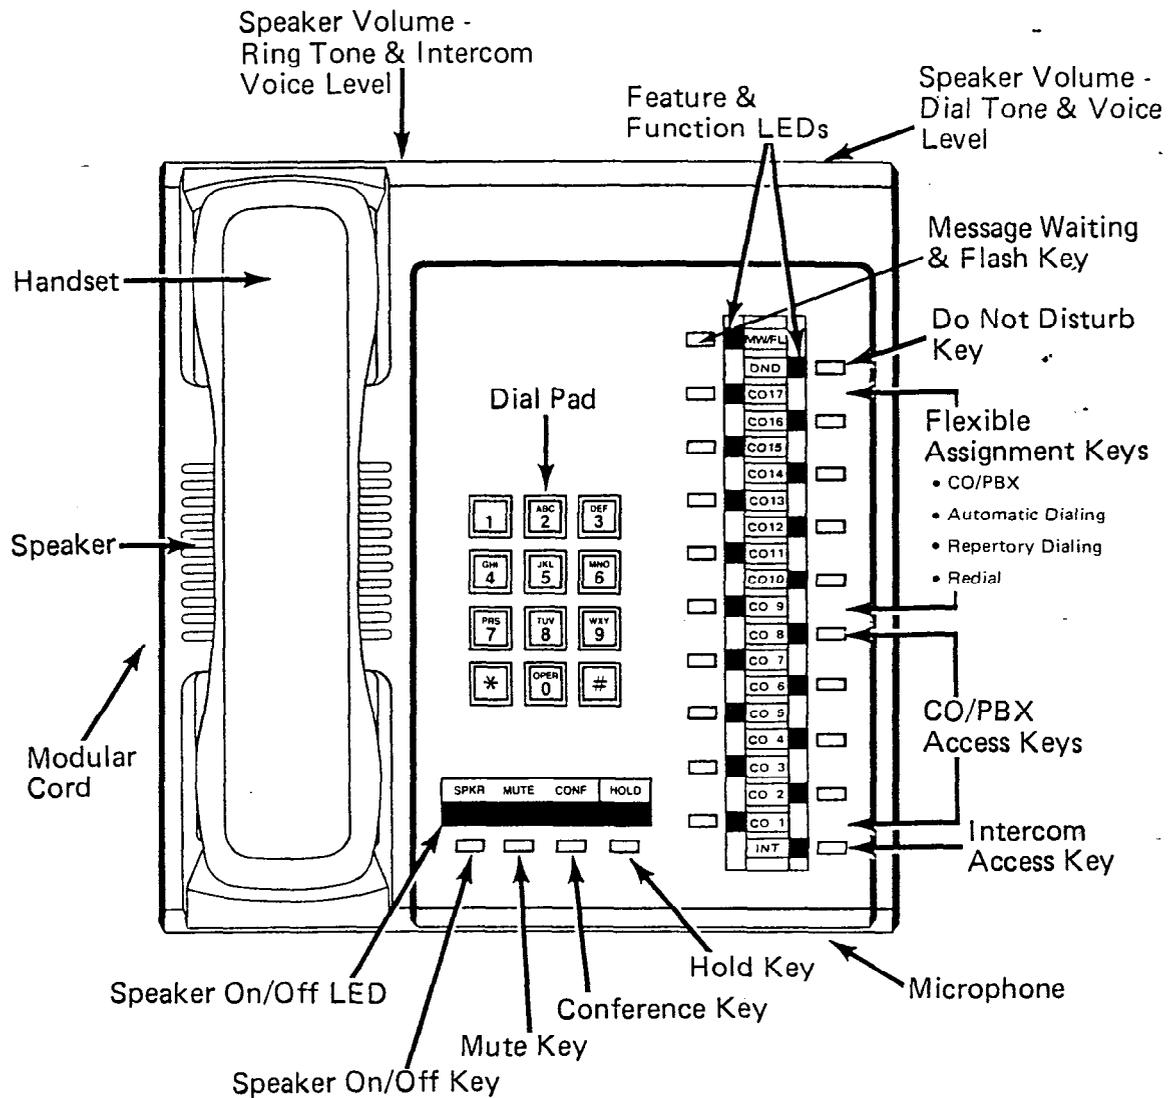

FIGURE 5—20-key EKT
02.12 The 20-key EKT, Figure 5, measures: